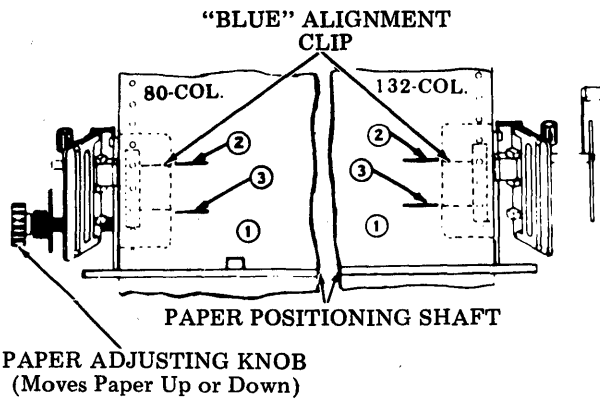

Fig. 59—Paper Positioning for First Printing Line (80- add 132-Column)
(b) On 80- or 132-column tractor feed printer, pull out paper advance knob (blue) and turn to position form for first line of printing as follows (Fig. 59):
- (1) Position the paper so first line to be printed is just above the paper positioning shaft (Fig. 59).
- (2) Position the top of the alignment clip to any reference mark on the paper (or make a pencil mark on the paper in line with the top of the alignment clip).
- (3) Using the blue paper adjusting knob move the paper down so that the reference mark (or pencil mark) on the paper is in line with the bottom of the alignment clip (Fig. 59).
- (4) Return paper guide to operating condition.